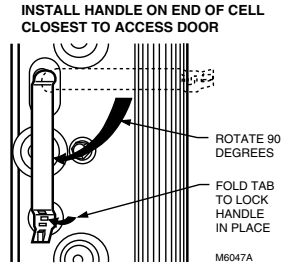

Fig. 3. Installing cell handle.
11. Install new cell handle on opposite side. See Fig. 3.